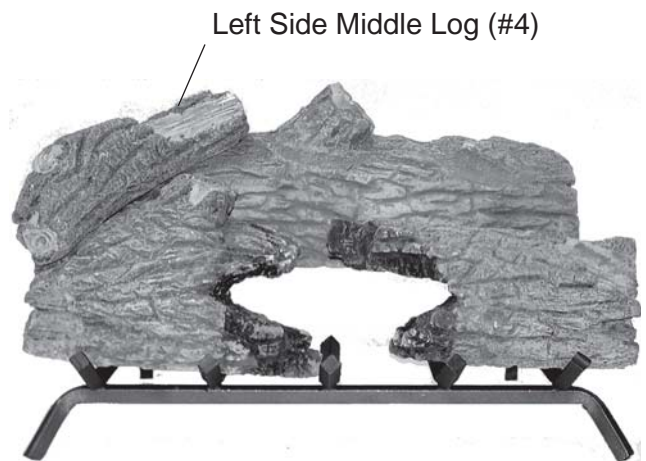

Figure 22 - Placing Left Middle Log (#4)
5. Install left side middle log #4 as shown. See *Figure 22*.